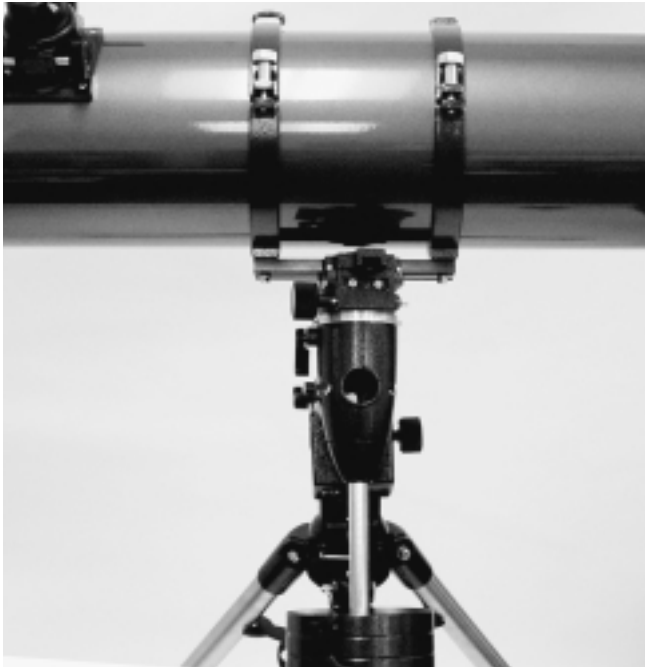

Figure 8. The optical tube must be at a 90° angle to the right ascension axis in order to view through the polar axis finder
1. Loosen the Dec. lock lever and rotate the optical tube on the declination axis so that the tube is at a 90° to the right ascension axis (Figure 8). Tighten the Dec. lock lever.
2. Loosen the Dec. lock lever and rotate the optical tube on the declination axis so that the tube is at a 90° to the right ascension axis (Figure 8). Tighten the Dec. lock lever.